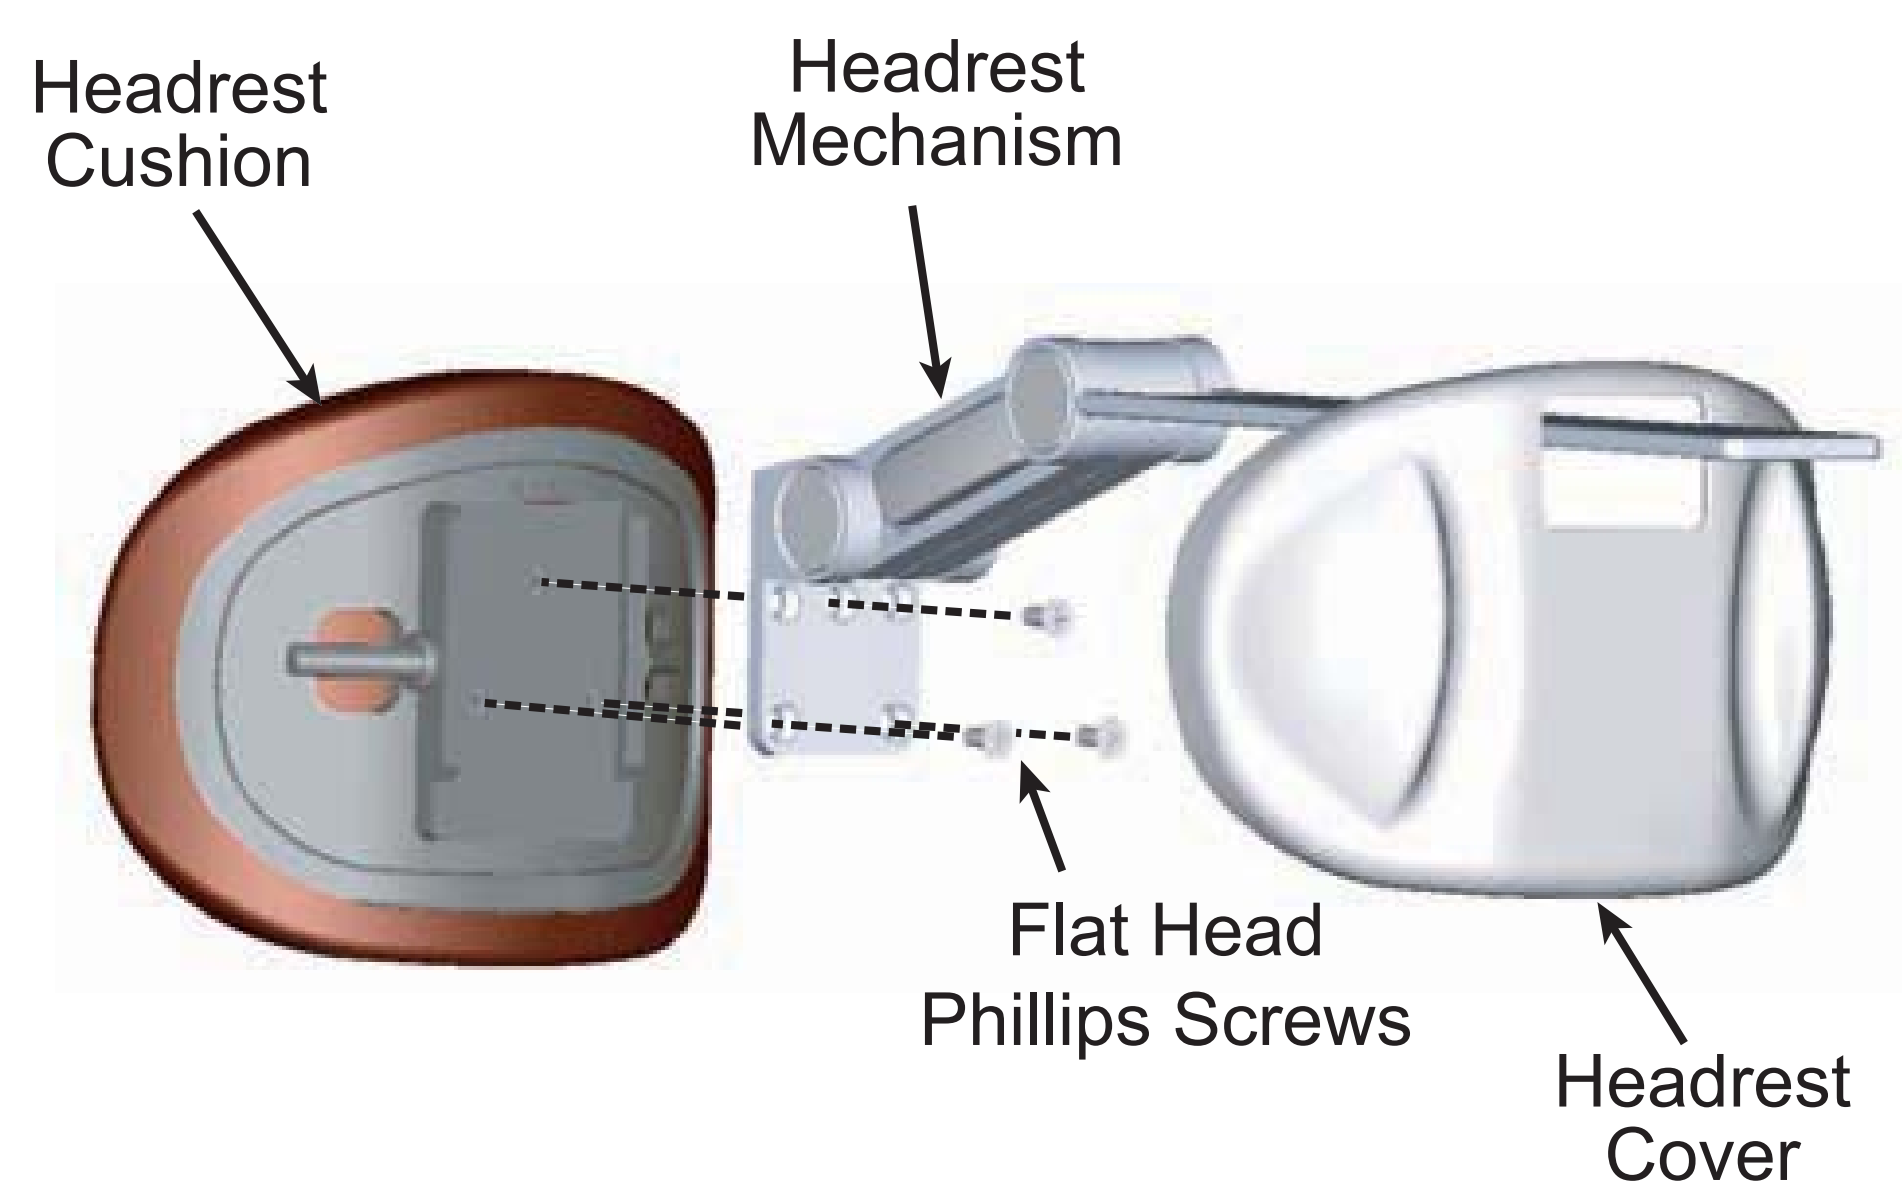

Fig. 5-8
1. Attach the Headrest Cushion to the Headrest Mechanism using three flat head phillips screws (M5x10mm) shipped in the Installation Hardware Box. (Fig.5-8)
2. Insert Headrest Mechanism bar through cut-out in Headrest Cover, as shown (Fig.5-8). Slide Headrest Cover over Headrest Mechanism and press firmly together with the Headrest Cushion.